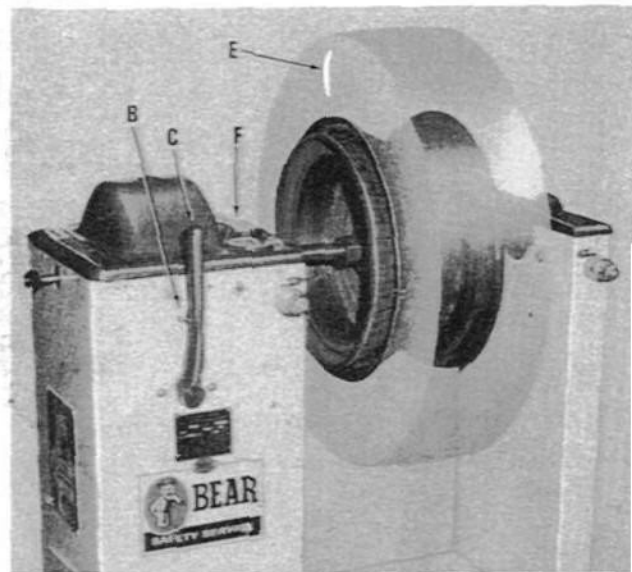

Fig. 8
1. With arbor drive shaft disengaged, allow the wheel to rotate and come to rest, thus locating the light section of tire and wheel which will be at the top. Make a chalk line on the tire at the top, E Fig. 8 (known as the static mark).
2. Engage drive shaft, close and lock bearing covers and spin the wheel at low speed (speed control handle in vertical position, C Fig. 8). Note amount of movement at both flexing heads. Turn off balancer; *stop wheel with brake and disengage shaft.* To brake wheel to a stop, move speed control handle toward the wheel and push firmly. It is assumed in the following illustrations that the left flexing head, F Fig. 8, had the greater amount of motion.